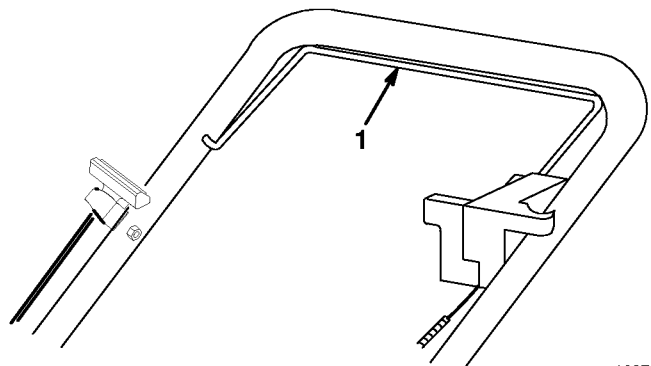

Figure 10
4. Slowly squeeze control bar against handle to engage traction mechanism (Fig. 10).